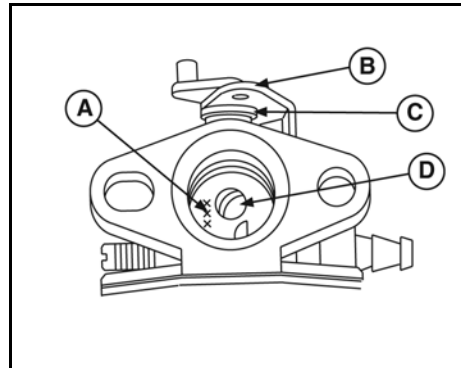

Figure 31
3. Install new foam seal (C, Figure 31) on throttle shaft (B), then slide shaft into carburetor body. Rotate shaft until flat is facing out. Position throttle valve on flat with numbers facing out (A), then install screws (D). Actuate the throttle shaft to check for proper movement.